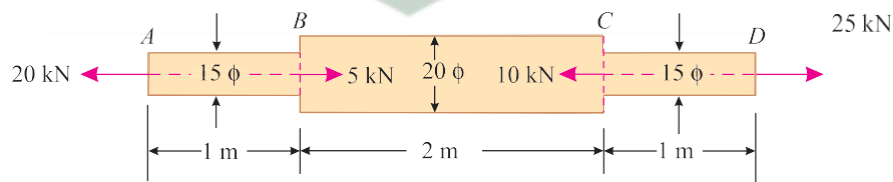

Fig. 2
- b) A steel bar ABCD 4 m long is subjected to forces as shown in fig. 2. Find the elongation of the bar. All the diameters are in mm.